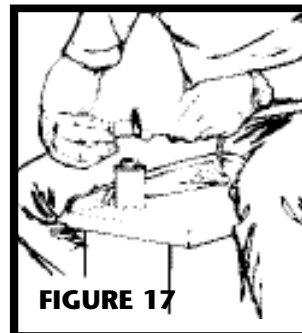

FIGURE 17
11. Refer to Figure 17. Apply PVC cement (Model 379) to outside of tubing. Coat tubing approximately 1" back. Take care to keep cement from inside of tube.
NOTE: When using the Model CF361 and CF361F inlet bracket on walls thinner than 1/2", use a 1/4" spacer (not furnished) between the wall and the inlet bracket. See Figure 17. Spacer may be made from plywood, Masonite™, etc. Contact cement may be used to hold spacer in place during assembly. Configuration of spacer may vary depending upon installation.